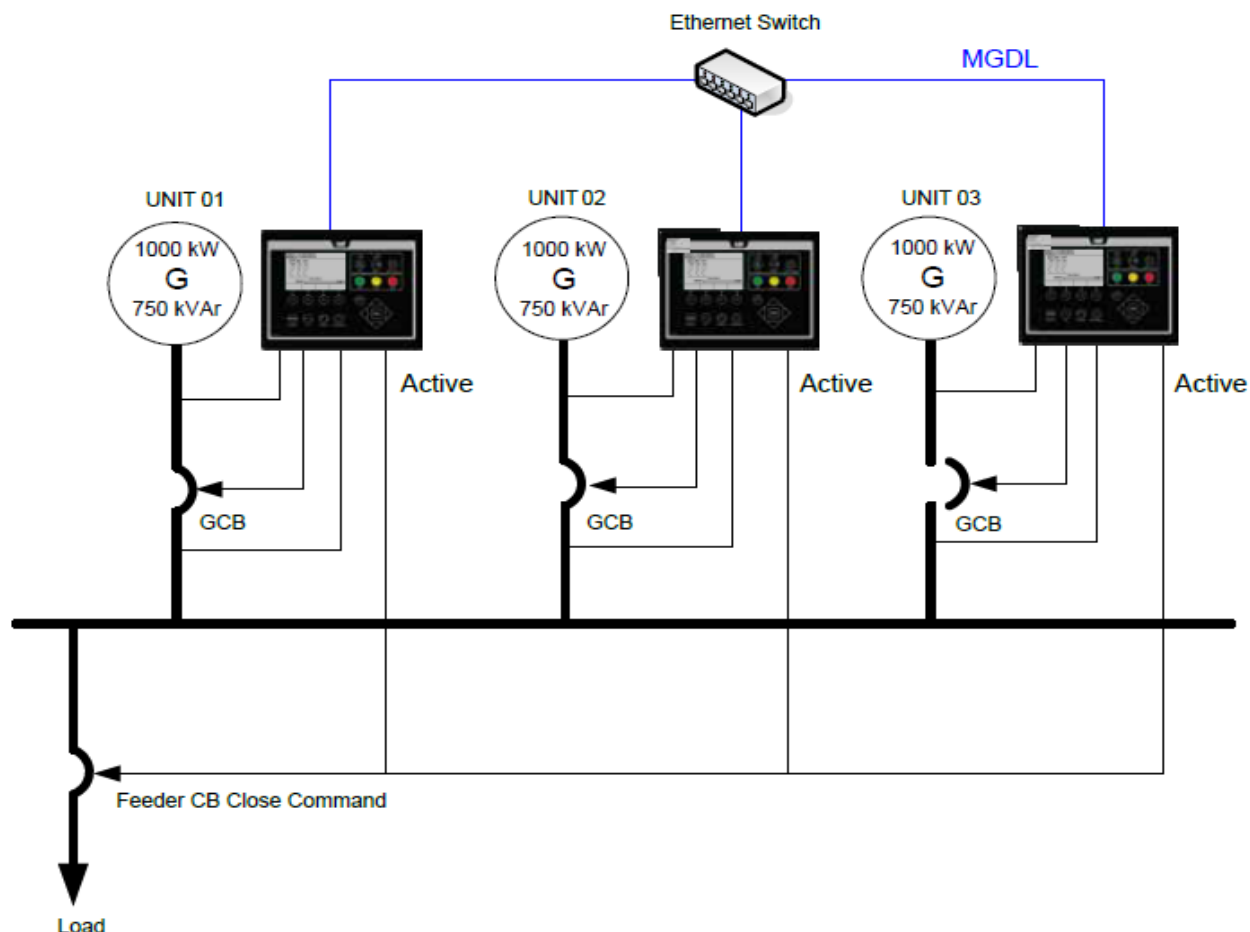

Figure 37.22 – MGD L Feeder Breaker Control Example
Figure 37.22 depicts an example of 3 MGDL units configured for Feeder Breaker Control. In this example each unit is assumed to be 1000 kW, 750 kVAr rated generator sets. Also assumed is that each unit is configured such that *Minimum Real Power Required for Load Bus #1* = 2,000 kW and *Minimum Reactive Power Required for Load Bus #1* = 1,500 kVAr. With this configuration and with Unit 01 and Unit 02 closed to the bus, the feeder breaker close command output will be active for all three (3) units.